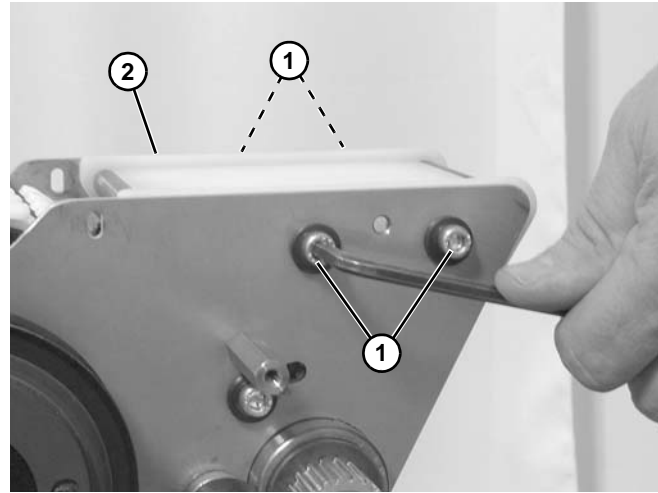

Figure 147
9. Remove four socket head screws (**Figure 147, item 1**) holding wear bar assembly (**Figure 147, item 2**) onto power transfer.